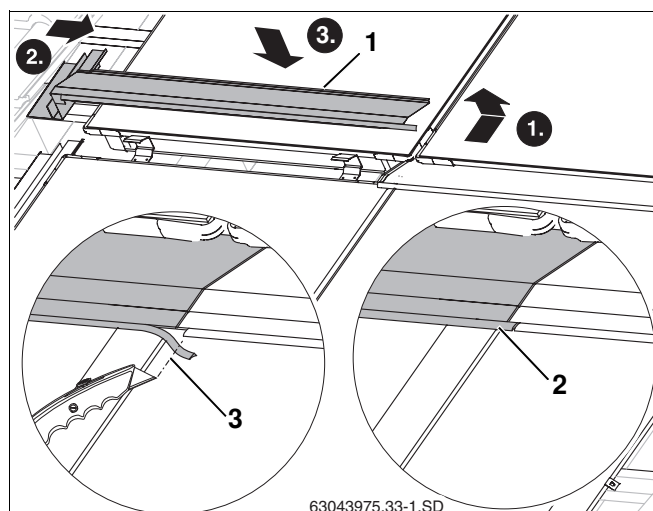

Fig. 54 Laying middle-left facing collector in place
- Insert upward fold on the left-hand facing collector (Fig. 54, **Item 1**) into the recessed channel on the collector frame, just as was done with the right-hand facing collector.
- Shorten the rubber lip (Fig. 54, **Item 3**), so that it touches the rubber lip on the right-hand facing collector.
- Place rubber lip on the left-hand facing collector onto the fold on the right-hand facing collector (Fig. 54, **Item 2**).